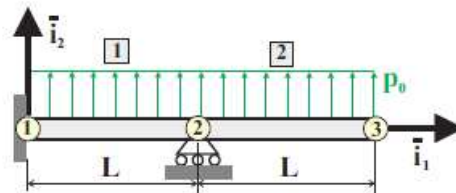

Fig. 11.51. Cantilever with mid-span support and a uniform load.
A cantilever beam is supported at mid-span and carries a uniform load p_0 as shown in fig. 11.51. (Note that this is very similar to example above.) Construct a finite element solution to this problem using two elements of length L . (1) determine the nodal displacements and rotations and compare to the exact results obtained using the unit load method. (2) Determine the nodal reactions for the constrained degrees of freedom. (3) Construct a plot of the deflected shape for the beam.